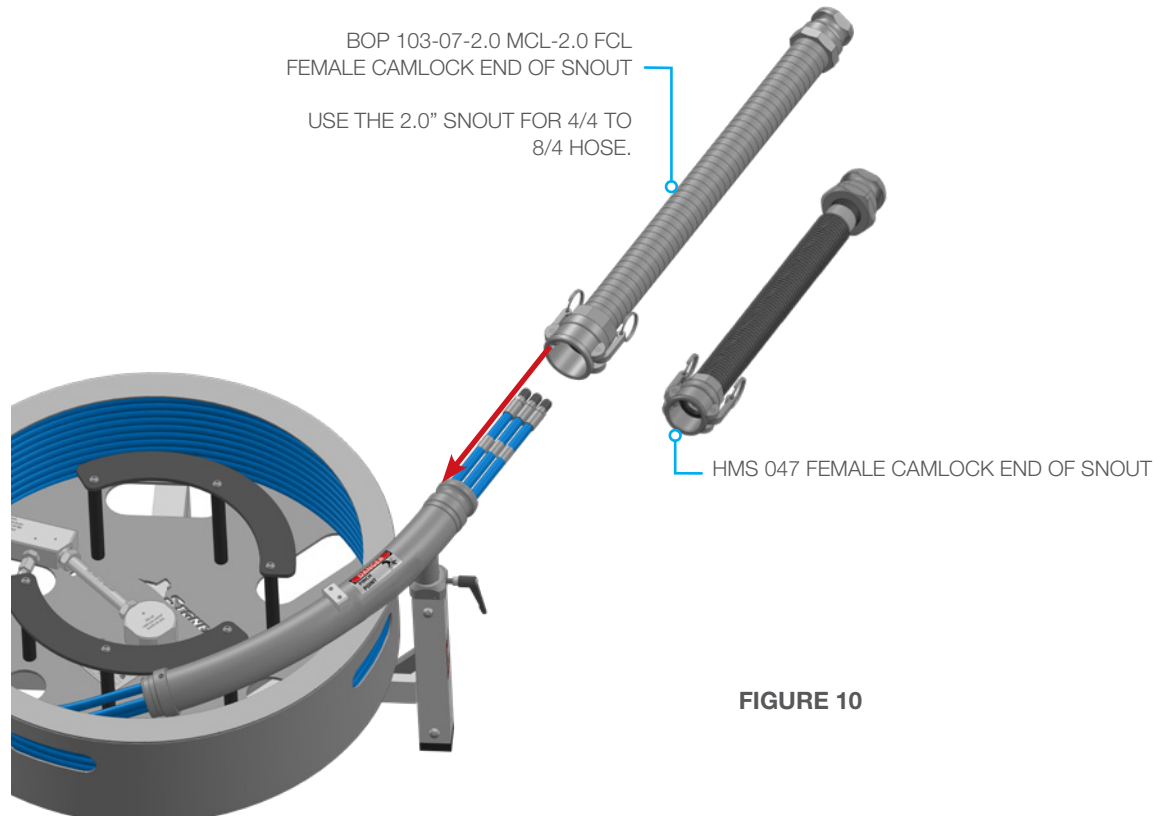

FIGURE 10
- Continue to push the hoses through the Snout, then connect the Female Camlock end of the Snout to the Snout Guide. (Figures 10 or 11)